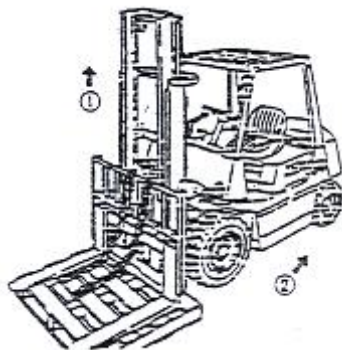

Figure 2-58
- (1) Place a tray on the forklift and park it on level ground.
- (2) Lower the fork and tray down to the ground.
- (3) Remove the upper end joint of the chain and remove the chain from the chain wheel.
- (4) Lift the inner main frame (① in Figure 2-58)
- (5) Reverse the forklift after confirming that the fork frame has been separated from the outer main frame (② in Figure 2-58).
- (6) Replace the main roller